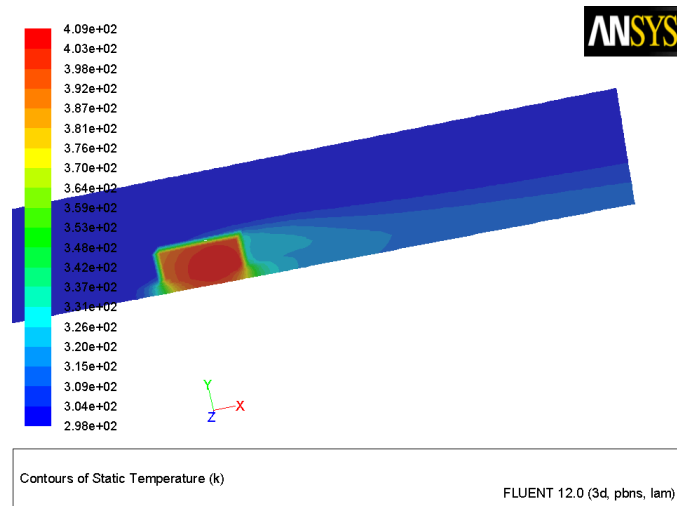

Figure 24.6: Filled Contours of Temperature on the Symmetry Surfaces
1. Display filled contours of temperature on the symmetry plane (Figure 24.6).
- (e) Rotate and zoom the display using the left and middle mouse buttons, respectively, to obtain the view as shown in Figure 24.6.